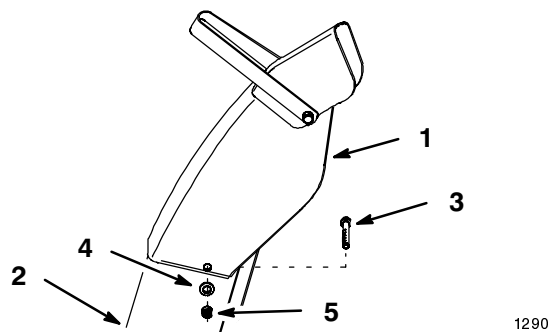

Figure 4
6. Assemble upper discharge chute section outside and on top of lower section (2) 5/16 x 5/8" with bolts (heads on inside), (2) 5/16" washers and (2) 5/16" locknuts (Fig. 4).